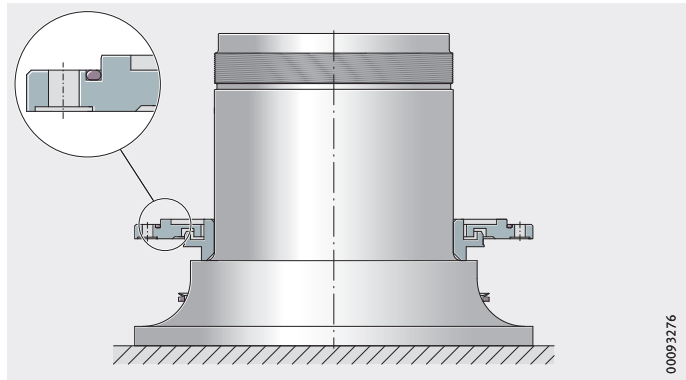

Figure 10
- ▶ Grease the O ring for the rotor side and insert in the slot on the housing cover for the rotor side, *Figure 10*.
- ▶ Slide the housing cover for the rotor side (with the inserted O ring) onto the shaft and place on the labyrinth ring, *Figure 10*.